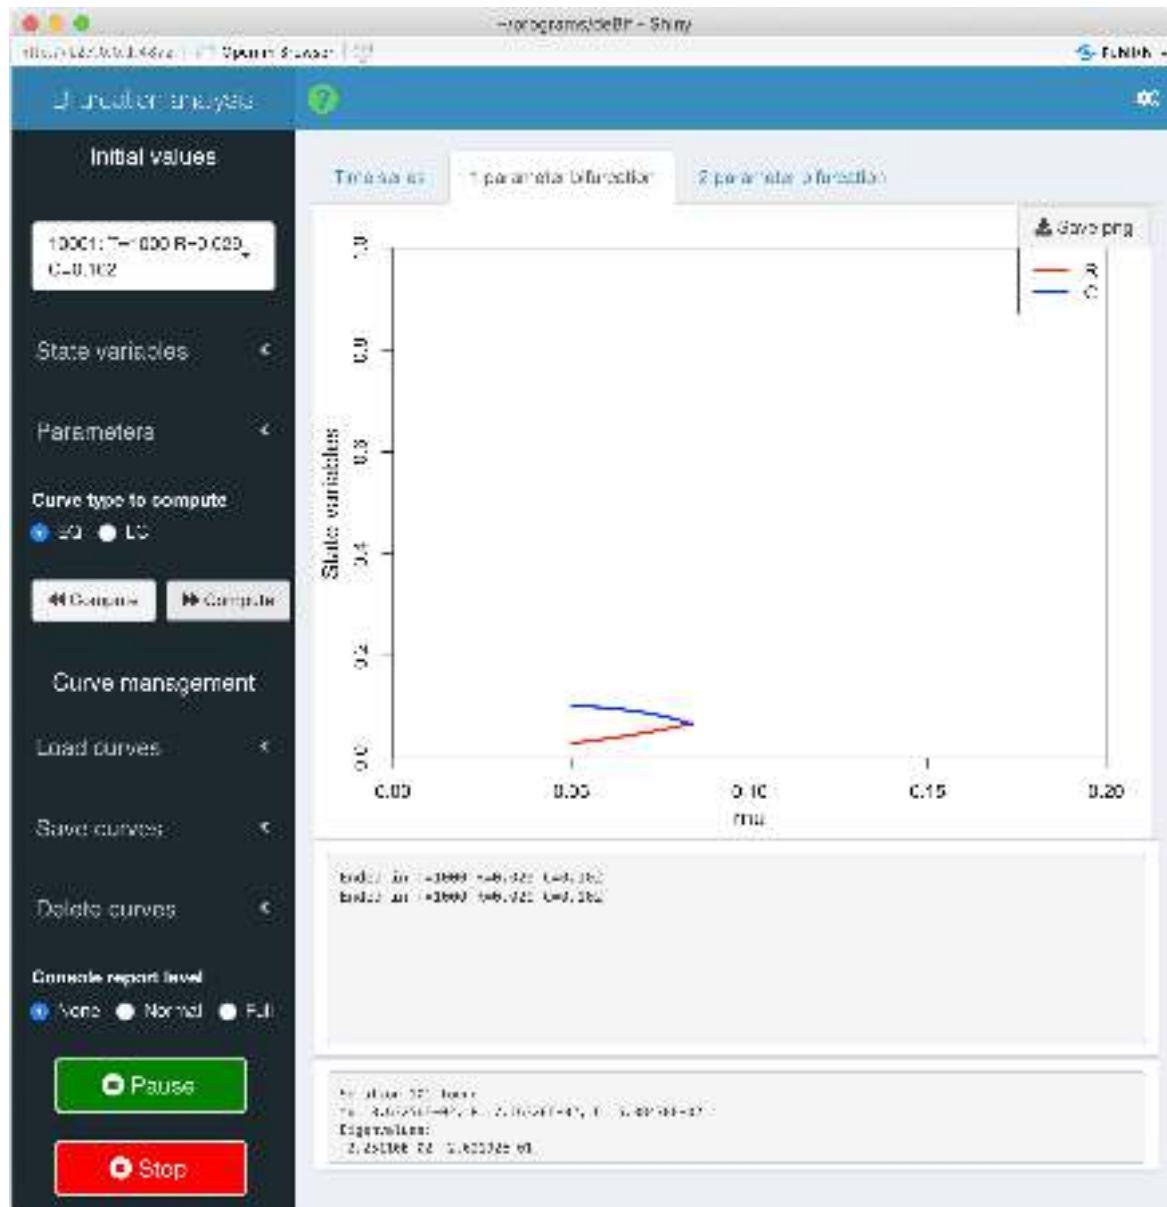

Figure 15: The 'bifurcation()' application while it is busy computing an equilibrium curve
Computations are started by clicking either the `<<Compute` or the `>>Compute`, which will start to compute the equilibrium curve originating from the initial point in the direction of lower and higher values of the bifurcation parameter, respectively. During the computation of a curve a `Pause` and `Stop` button are displayed in the left sidebar (see Figure 15) with which the computation can be temporarily halted or stopped altogether. The progress window at the very bottom of the tab sheet `1 parameter bifurcation` reports on the solutions that are found and, importantly, also reports on the eigenvalues that characterize the dynamics in the neighborhood of the equilibrium. Inspection of these eigenvalues allows for checking whether or not the computed steady states are stable or unstable.
Computations of equilibrium curves will halt when the maximum number of solution points along the curve has been reached or when the values of the state variables in the equilibrium point are reaching values outside the range of values currently shown on the x - and y -axis. The default number of solution points along a curve is by default equal to 500, but can be changed (see section 3.2.3). Figure 16 shows the completed equilibrium curve, of which the initial part was already shown in Figure 15. This complete equilibrium curve has been constructed by 1) first starting the continuation of this curve to lower values of the bifurcation parameter μ ; 2) subsequently continuing this curve to higher values of the bifurcation parameter μ ; and finally, 3) Selecting the final solution point of the latter curve (point number 501) as initial point for the next calculation and computing once again forward to higher values of the bifurcation parameter. As Figure 16 shows two bifurcation points are detected during these computations: a Hopf bifurcation point (HP) at a value of the bifurcation parameter around 0.03 and a trans-critical bifurcation or branching point (BP) at a value of the bifurcation parameter around 0.10. Figure 16 also shows that the curve section to the left of the HP is plotted with a short-dashed line. This indicates that the equilibrium points on that section of the curve are unstable, that is, the eigenvalues characterizing the dynamics in the neighborhood of the equilibrium have a positive real part.